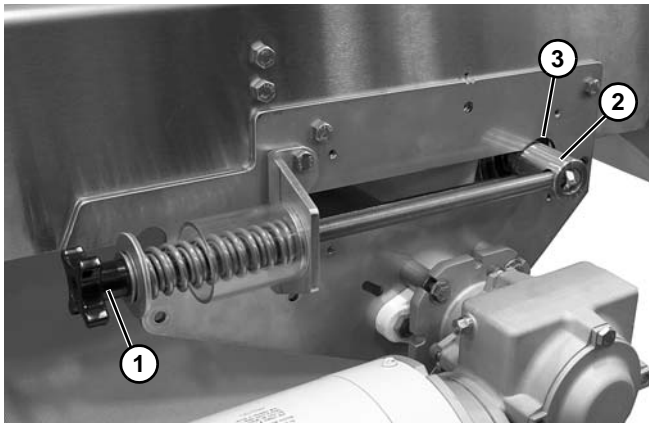

Figure 56
12. Loosen tension nut (Figure 56, item 1) on each side of the center drive so that the tension pulley spacer (Figure 56, item 2) aligns with hole (Figure 56, item 3).